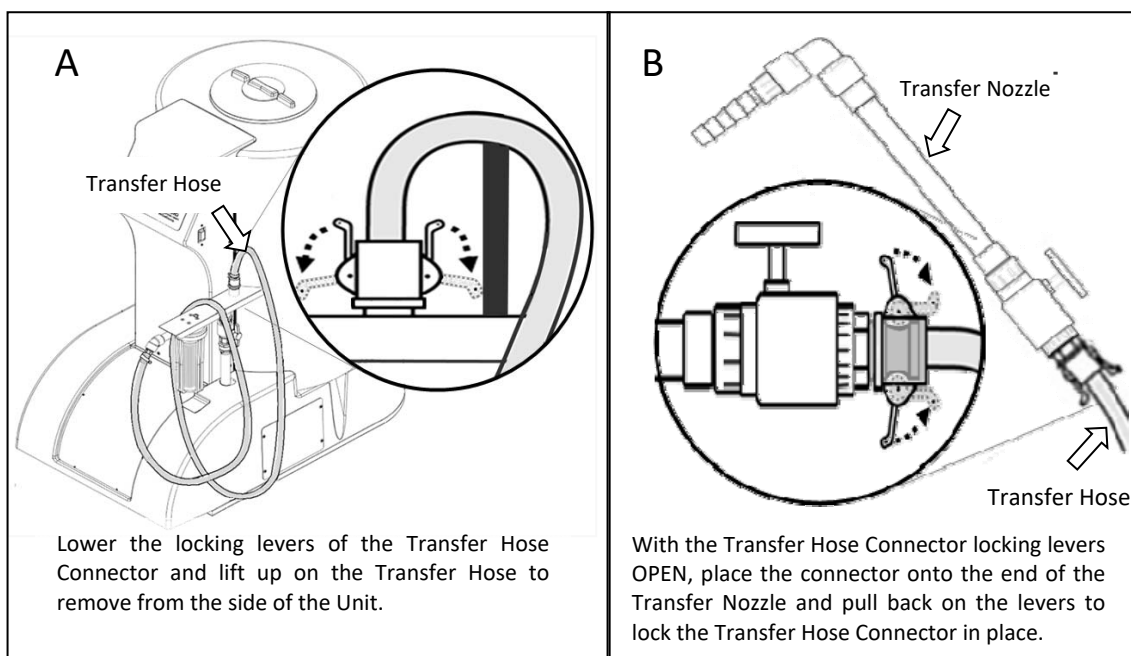

Figure 7
2. Remove Transfer Hose from the Transfer Hose Holder (Figure 7, A) and connect the Transfer Hose to the Transfer Nozzle (Figure 7, B).